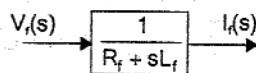

Fig 1.
In equation (4), $V_f(s)$ is the input and $I_f(s)$ is the output. Hence the equation (4) is rearranged and the block diagram for this equation is shown in fig 1.